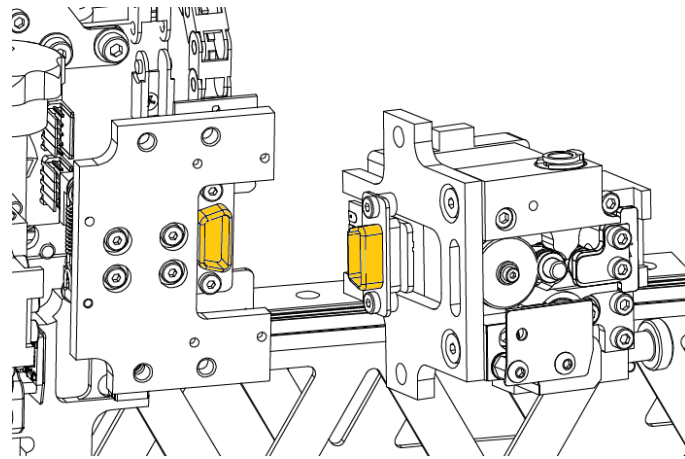

Fig. 88 Installing the extruder
14. Install the T1 extruder in the printer by inserting the plug into the D-sub socket (Fig. 88, yellow).